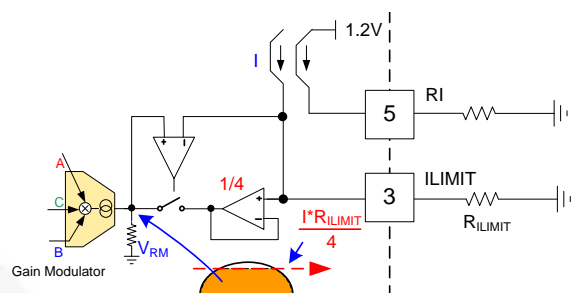
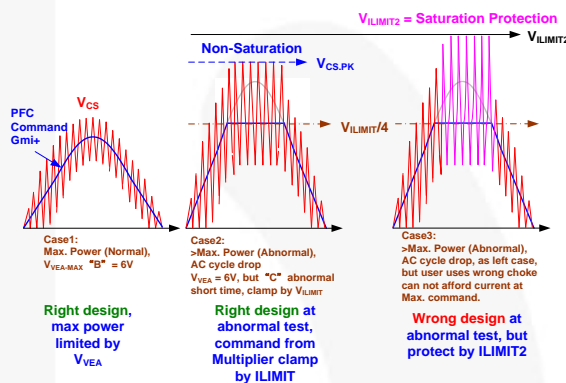

Figure 22. Current Command Limit by ILIMIT
Figure 23.  $I_{LIMIT}$  and  $I_{LIMIT2}$  Setting
**Current Limit 1** (abnormal state): The current command from the gain modulator is  $k \cdot I_{AC} \cdot V_{VEA} / V_{LPK}^2$ . When in abnormal state (e.g. an AC cycle miss and return in a short period), the  $V_{LPK}$  has a delay before returning to the original level. This delay significantly increases the current command. If the command is greater than the limit clamp level,  $V_{LIMIT}$ , it works as shown in Figure 22 and Figure 23. The peak current of this state can be used as the maximum current designed for each channel such that inductor current is not saturated.